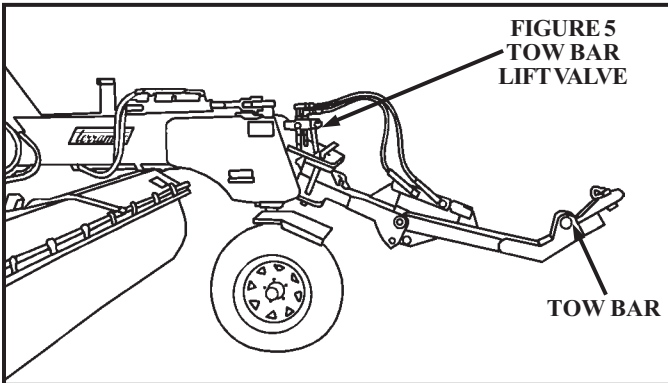

FIGURE 5
5. Start sweeper engine. Helper uses tow bar lift valve (See Figure 5) to raise tow bar to towing truck height.